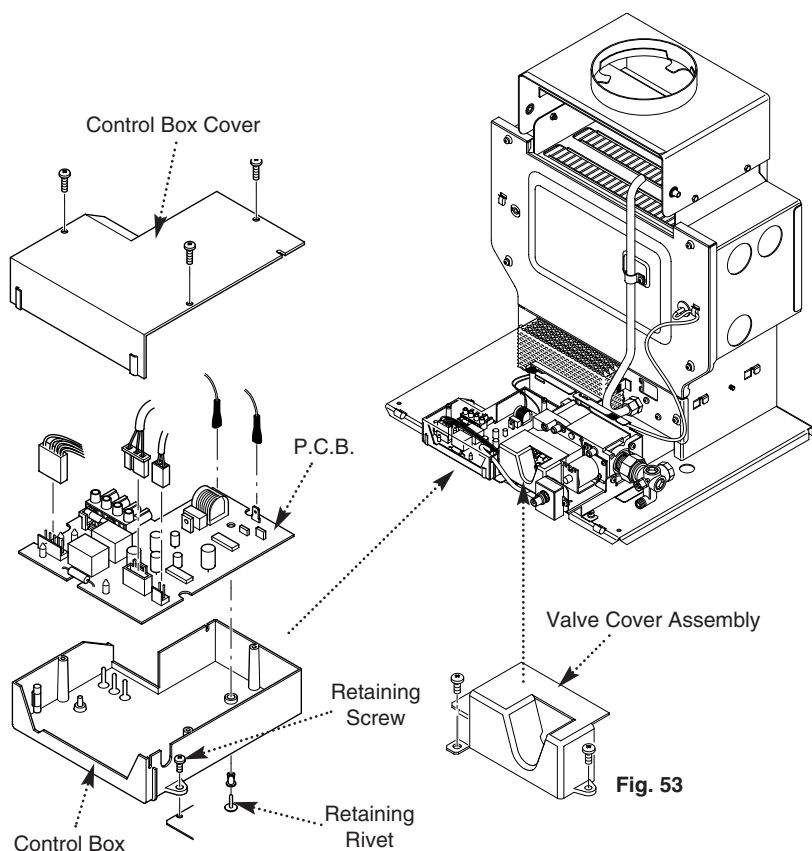

Fig. 52
2. Turn the thermostat knob to the off position (Fig. 52).
3. Undo the three screws retaining the control box cover and remove the cover (Fig. 52).
4. Disconnect the three multi-pin plugs, flame sensing lead and ignition lead from the PCB, noting their positions (Fig. 52).
6. Undo the screw retaining the control box and remove the box (Fig. 52).
7. Push out the black rivet retaining the PCB (Fig. 52).
8. Fit the new PCB using the rivet (Fig. 52).